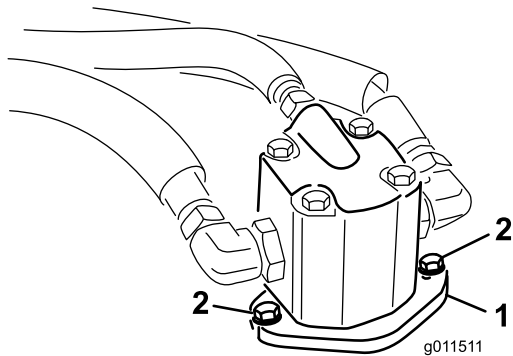

Figure 103
4. Remove the bolts securing the hydraulic motor to the mower deck (Figure 103).